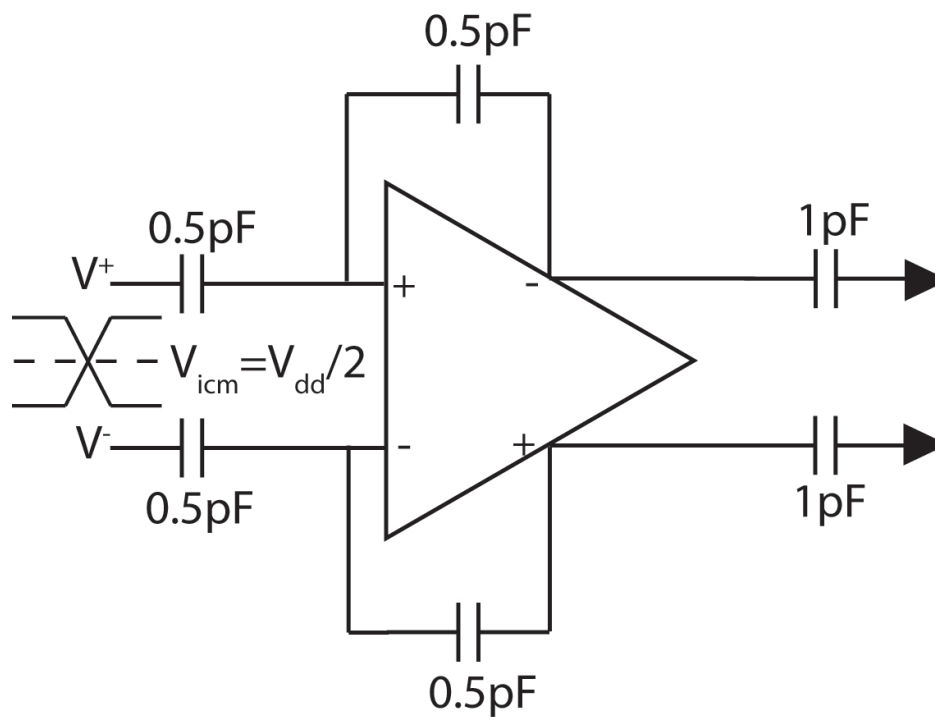

Figure 1: Configuration for testing step response
- (b) (15 points) Step response of your amplifier for a 100mV step for both rising and falling steps with your op-amp in unity gain configuration, see figure 1.